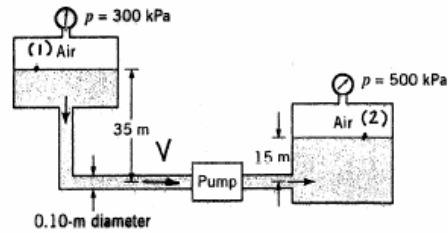

FIGURE P5.94
5.94 Water is pumped steadily through a 0.10-m-diameter pipe from one closed, pressurized tank to another as shown in Fig. P5.94. The pump adds 4.0 kW to the water and the head loss of the flow is 10 m. Determine the velocity of the water leaving the pipe.